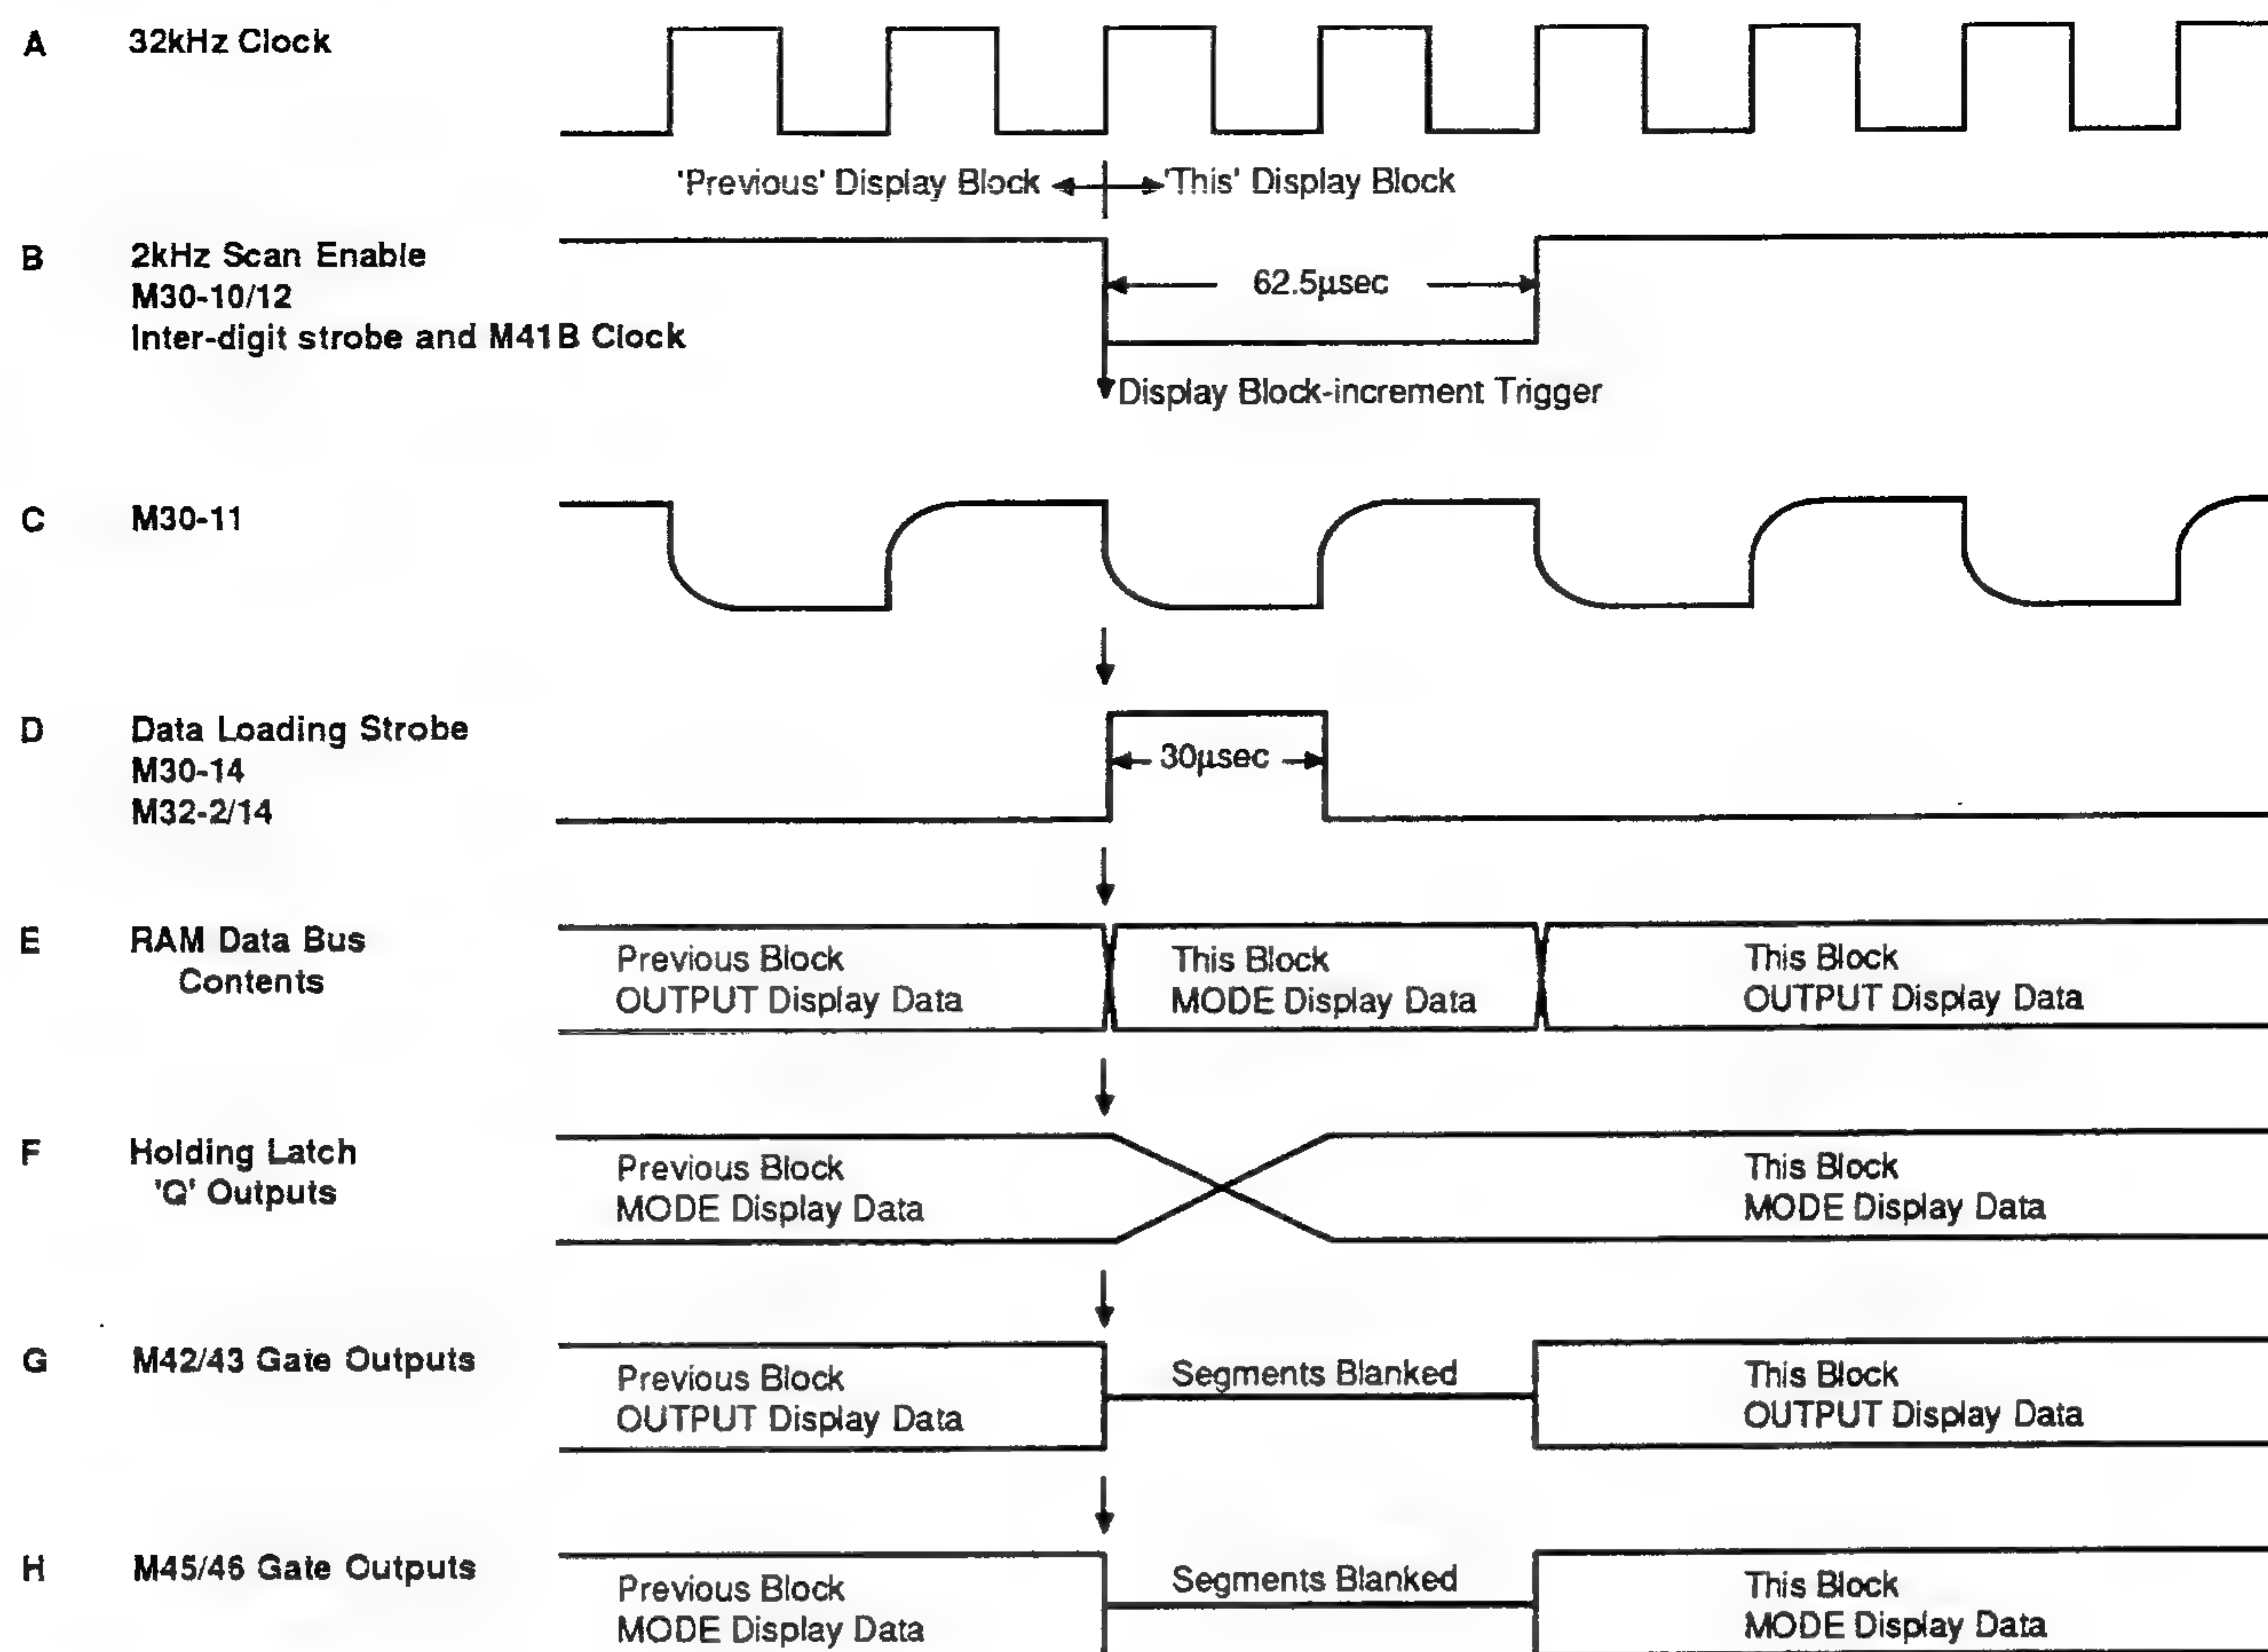

FIG. 6.12 DISPLAY TIMING WAVEFORMS
6.3.4.4 Display Timing (Fig. 6.12)
Block Changeover: The next block is selected during the display master timing pulse (Fig. 6.12, Waveform B).